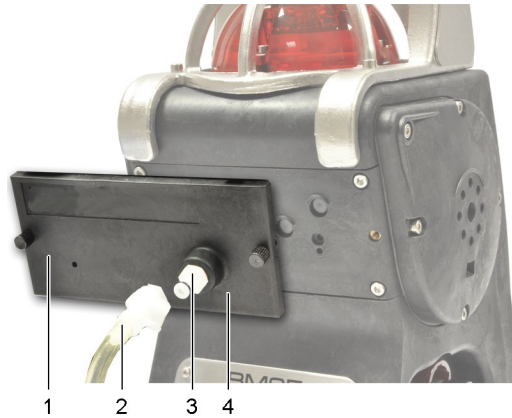

Figure 16: positioning the sensors cover (BM 25/25W non-equipped with an electric pump)
- Place and screw the cover over the sensors (Figure 16: positioning the sensors cover (BM 25/25W non-equipped with an electric pump)ref. 1); this cover has no hump as previously mentioned (ref. 4).
- Connect the sample line (ref. 2) to the gas inlet (ref. 3).